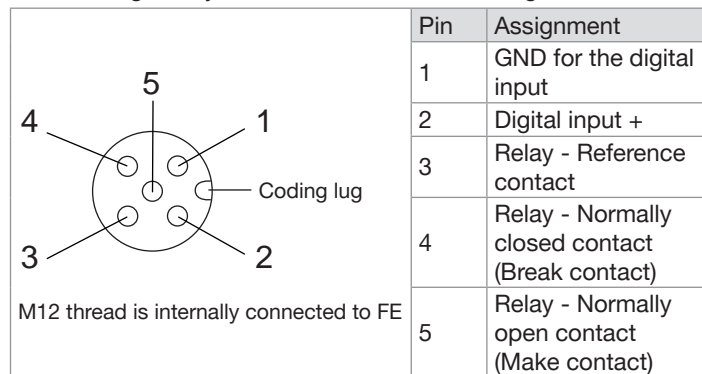

Fig. 20: MFM Analogue or MFC Analogue: Pin assignment, 5-pin M12 female connector (A coding)
- Wire the mating male connector according to the pin assignment of the M12 female connector in Fig. 20. Observe the instructions that are given by the manufacturer of the mating male connector.